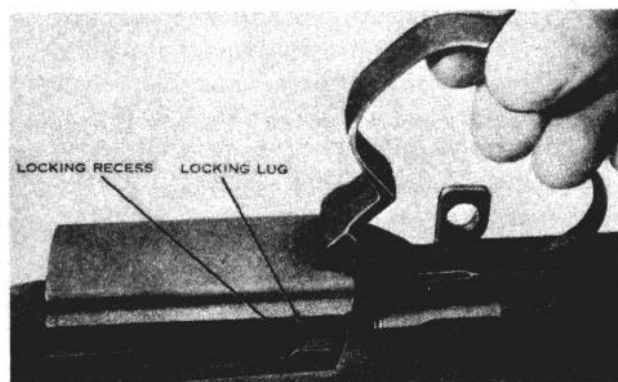

Figure 18. Replacing the trigger housing group.
b. Unlatch and open the trigger guard. Keeping the base of the trigger housing group level, place it straight down into the receiver, making sure that the locking lugs on the trigger guard enter their recesses in the receiver (fig. 18). Place the butt of the rifle on the left thigh with the sights to the left. Close the trigger guard and latch it by striking it with the heel of the right hand. The trigger guard is latched while the rifle is in this position so that the rear sight will not be damaged.